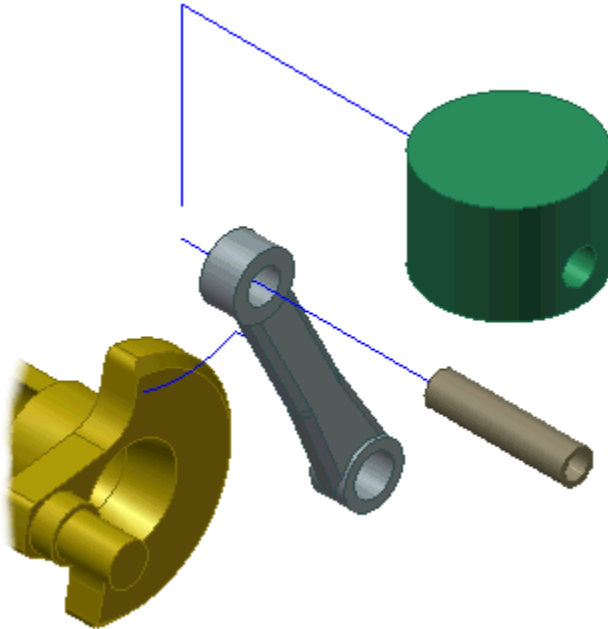

Figure 9: Multiple component tweak.
5. Enter 0.25 in the Transformations edit box to define a precise movement, then click the Apply button . The result should match that shown in Figure 9.